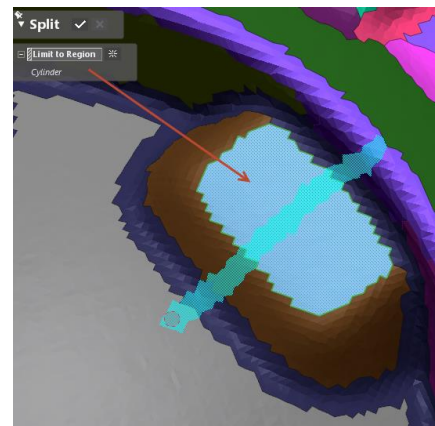

Figure 87
- After selecting Split, the **Limit to Region** is automatically activated. **Select** the region shown in **Figure 87**.